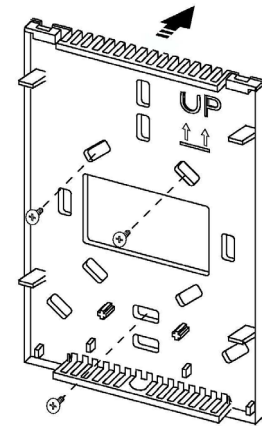

FIGURE 2
3. Mount the back using at least three screws as shown in Figure 2.